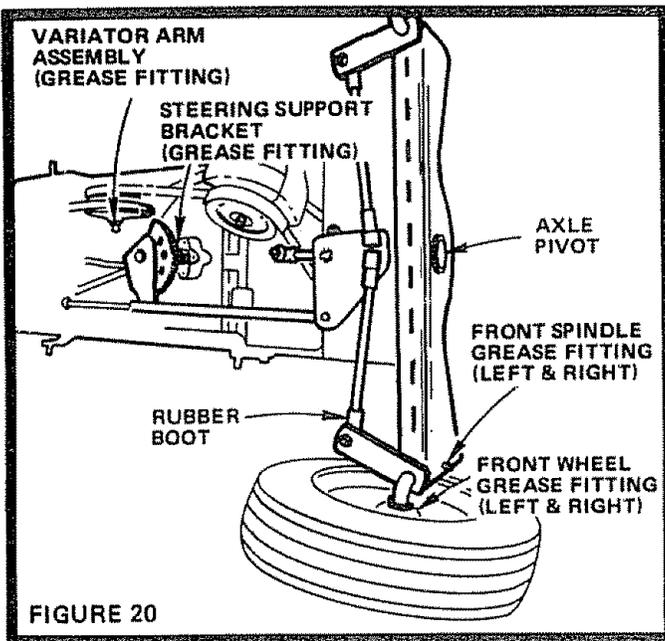

FIGURE 20
- a. Front Axle Pivot (Fig. 20).
- a. Move Rubber Boots to expose Ball Joints on Tie Rods and Steering Link (Fig. 20)